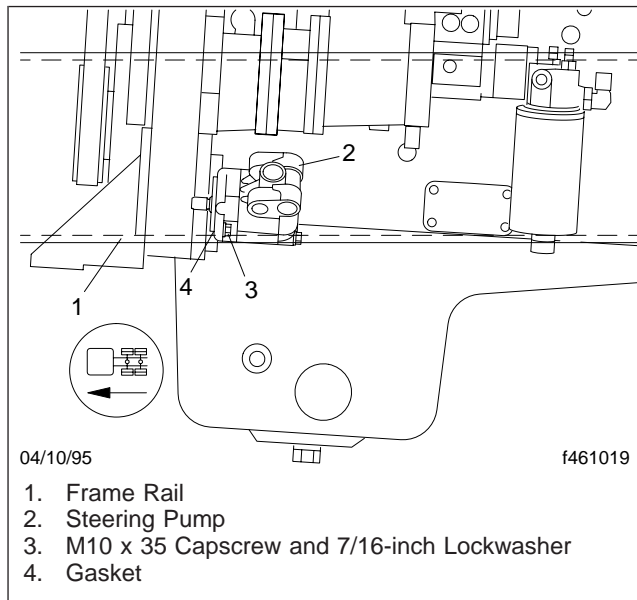

Fig. 1, TRW PS Series Power Steering Pump Mounting
4. Remove the mounting capscrews and lockwashers that attach the pump to the engine accessory drive mounting flange. See Fig. 1. Hold the pump as you remove the second mounting bolt.